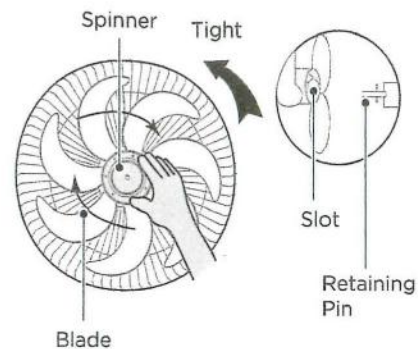

Fig.6
- 2 Insert the blade into shaft, and make sure the rotor shaft pin is fitted into groove of the blade. Turn the spinner counter clockwise to tighten the blade. (Fig. 6)